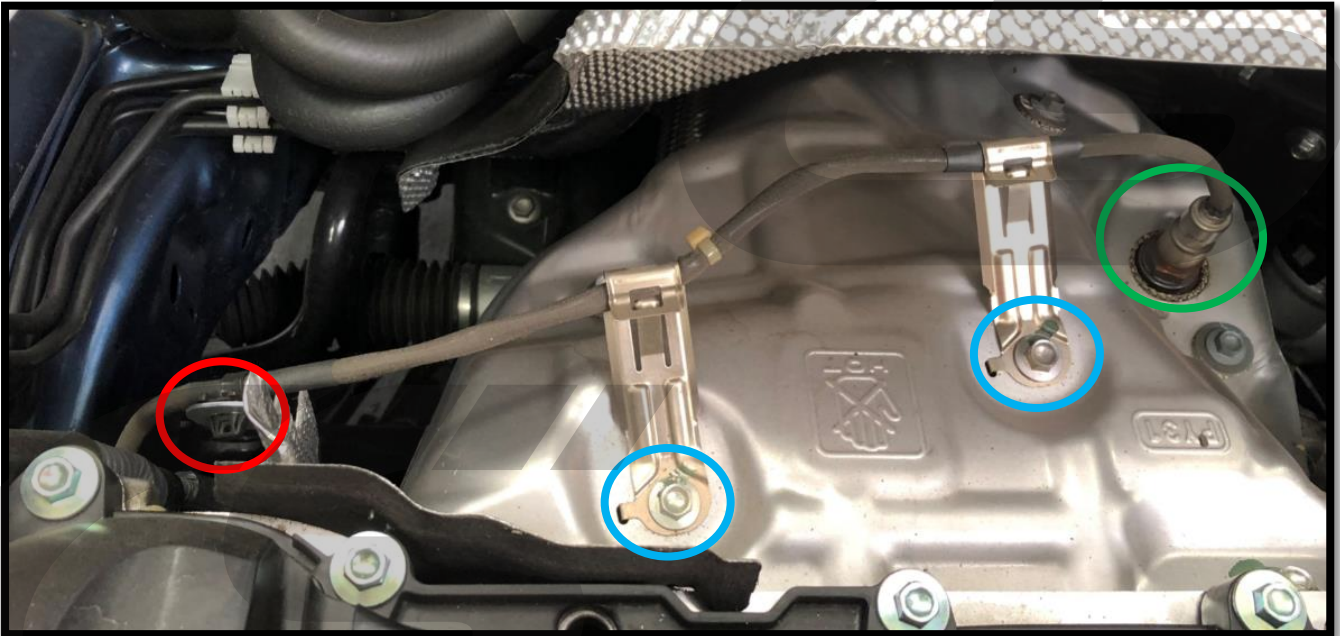

Figure 2d
- d) Remove the plastic wiring clip that secures the O2 sensor wiring to the engine block. Show **circled in red** in **Figure 2d**.
- e) Remove the two 10mm bolts that secure the O2 sensor wiring to the OEM header. Shown **circled in blue** in **Figure 2d**.
- f) Remove the Oxygen sensor from the OEM header using an O2 sensor socket. Shown **circled in green** in **Figure 2d**.